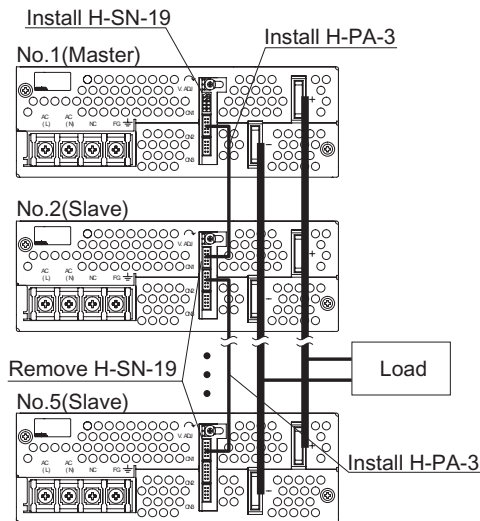

Fig.4.3 Example of parallel connection (PBA1500F)
■ You can use the power supplies in parallel operation by connecting units as shown in Fig.4.3.